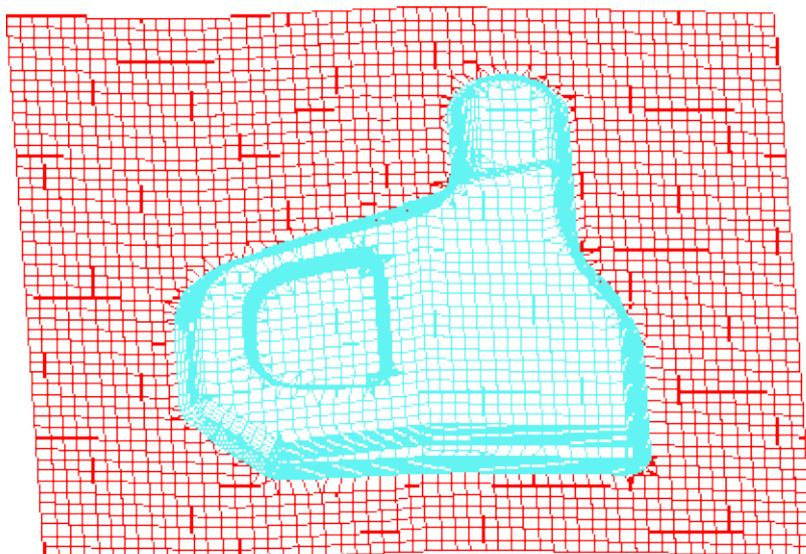

Figure 5.51 Offset elements
18. Click **Apply** button to offset the selected elements to a new part. See Figure 5.51.